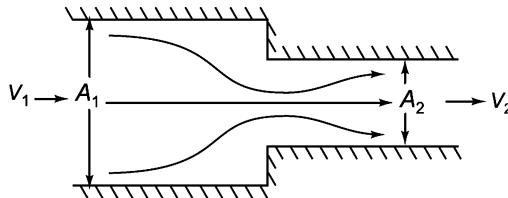

FIGURE 18.36 Head loss due to vena contracta.
- (b) **Sudden contraction:** In sudden contraction, flow contracts and forms a vena contracta as shown in Figure 18.36. From experiment, it is seen that the contraction due vena contracta is about 40% for contraction area of pipe (A_2)